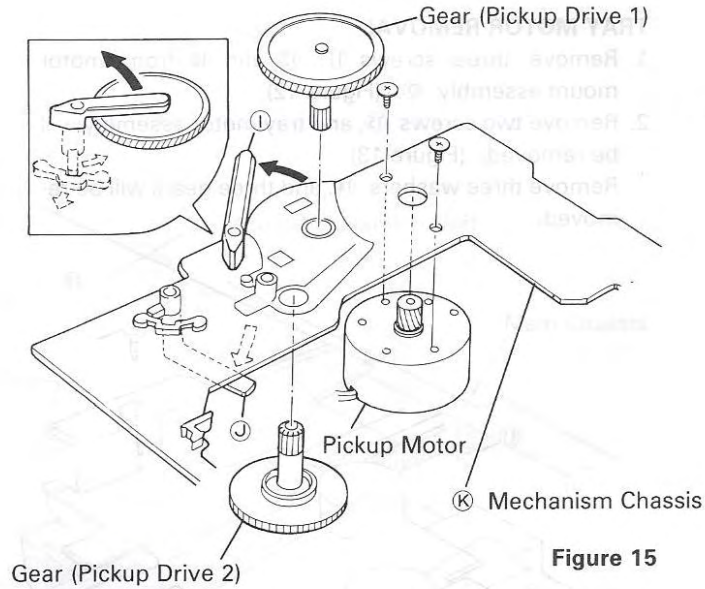

Figure 15
1. Push two stoppers ① and ② from mechanism chassis ③, and pickup gear will be removed. (Figure 15)